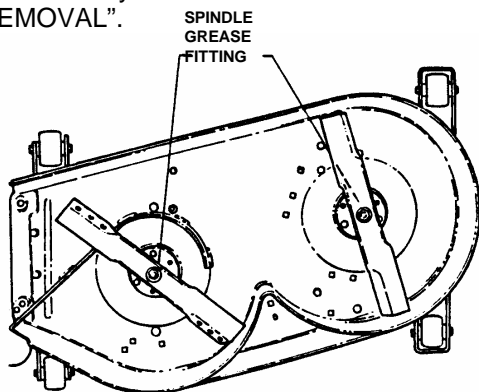

FIGURE 3.6
4. Lubricate spindles with three shots of general purpose grease from grease gun. See Figure 3.6.